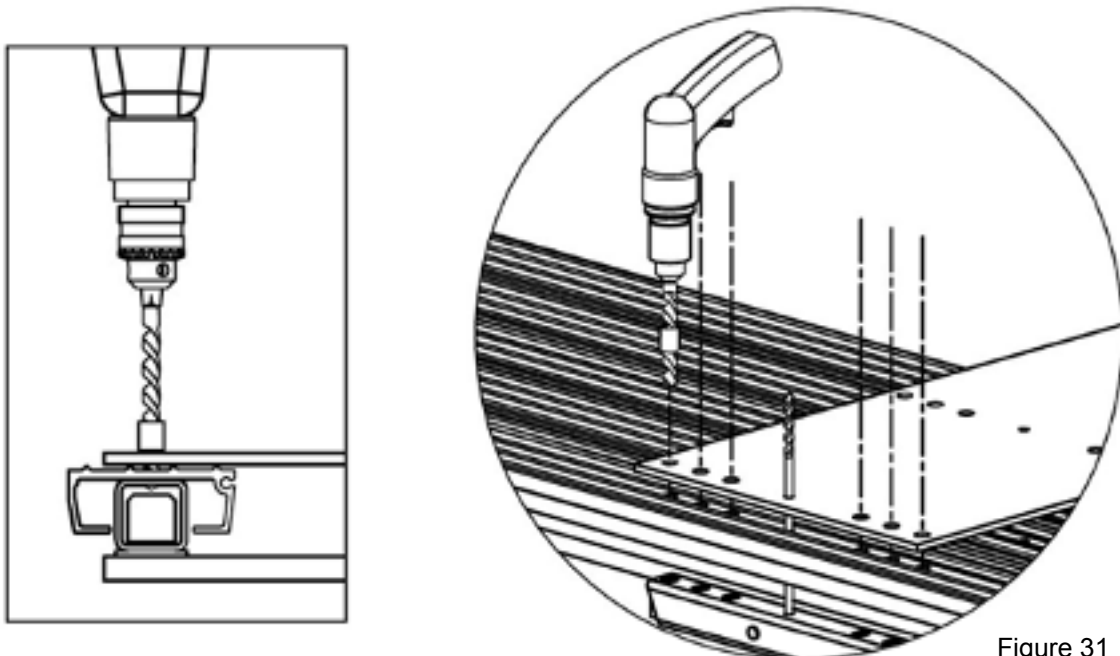

Figure 31
d. Drill each of the 1/2" [13mm] holes, being careful to drill only through the slat/plank and not into the nut bars that sit at the bottom of each shoe. Note: One method of achieving the correct drill depth is to measure the thickness of the jig-slat/plank combination and mark the 1/2" [13mm] drill bit with tape before beginning. (Figure 31).